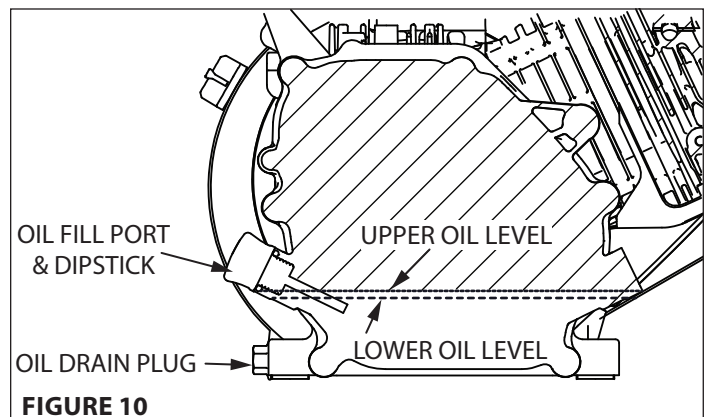

FIGURE 10
2. Remove oil drain plug and empty oil into suitable oil container. Dispose of oil properly. **SEE FIGURE 10**
3. Reinstall drain plug. Remove dipstick (if applicable) or oil fill cap. **SEE FIGURE 10**
4. Fill with appropriate oil to "FULL" or top line of dipstick; otherwise to top thread of oil fill hole. **SEE FIGURE 10**